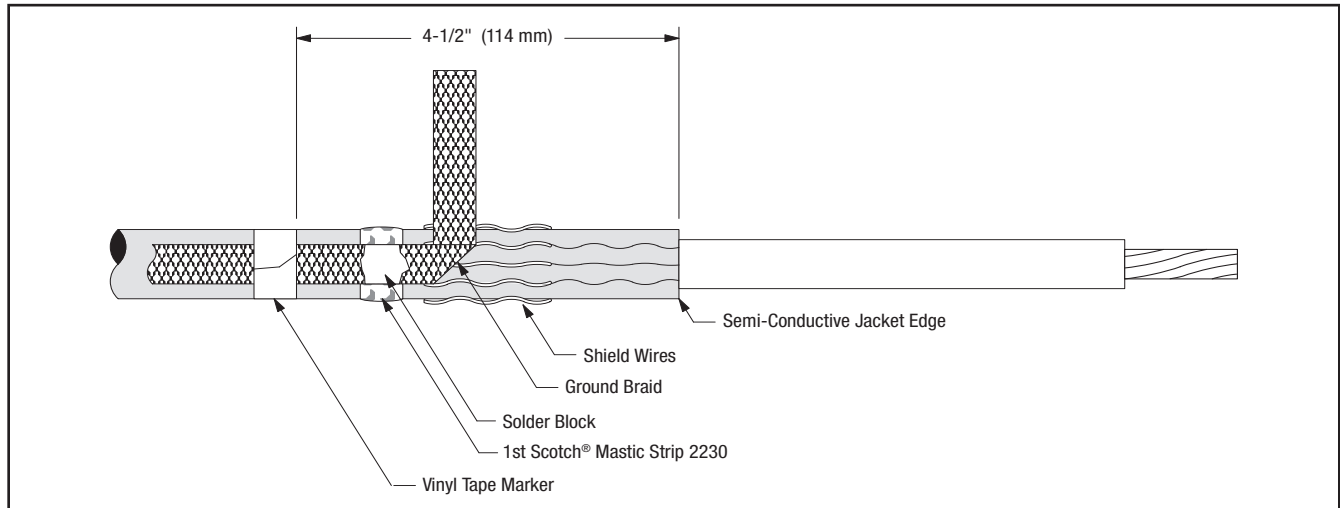

Figure 20
- 13.2 Position pre-formed ground braid with short tail directly over cut edge of folded back shield wires. PLEASE NOTE: The ground braid needs to make full contact with the shield wires. Position long tail of ground braid, extending over cable semi-conductive jacket with solder block over mastic strip (Figure 20). Secure ground braid to cable semi-conductive jacket 4-1/2" (114 mm) from cable Semi-Conductive Jacket edge using vinyl tape (See NOTE and Figure 20).